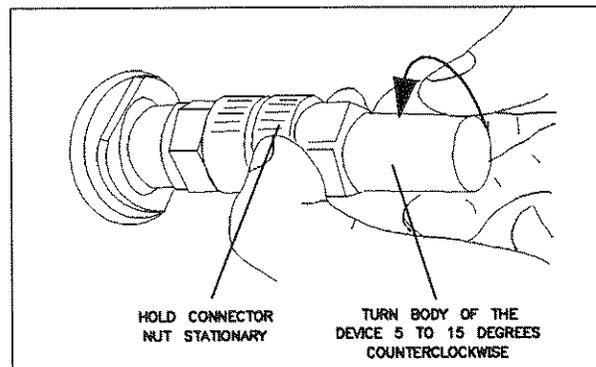

Figure 3-29. Seating a Precision 7 mm Connector
1. After making the preliminary connection (using light finger pressure), hold the connector nut stationary with one hand. With the other hand, gently turn *the body of the connecting device* 5 to 15 degrees opposite the direction of tightening (Figure 3-29). You should feel smooth, uniform movement, without resistance.